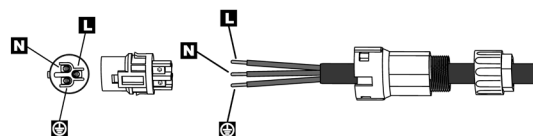

Fig. 30. Connecting and fastening the sleeve on the AC terminal.
- According to the direction of the arrow, push the threaded sleeve until it connects to the AC terminal head, and then turn the cable gland clockwise to lock it, as shown in Fig. 30: